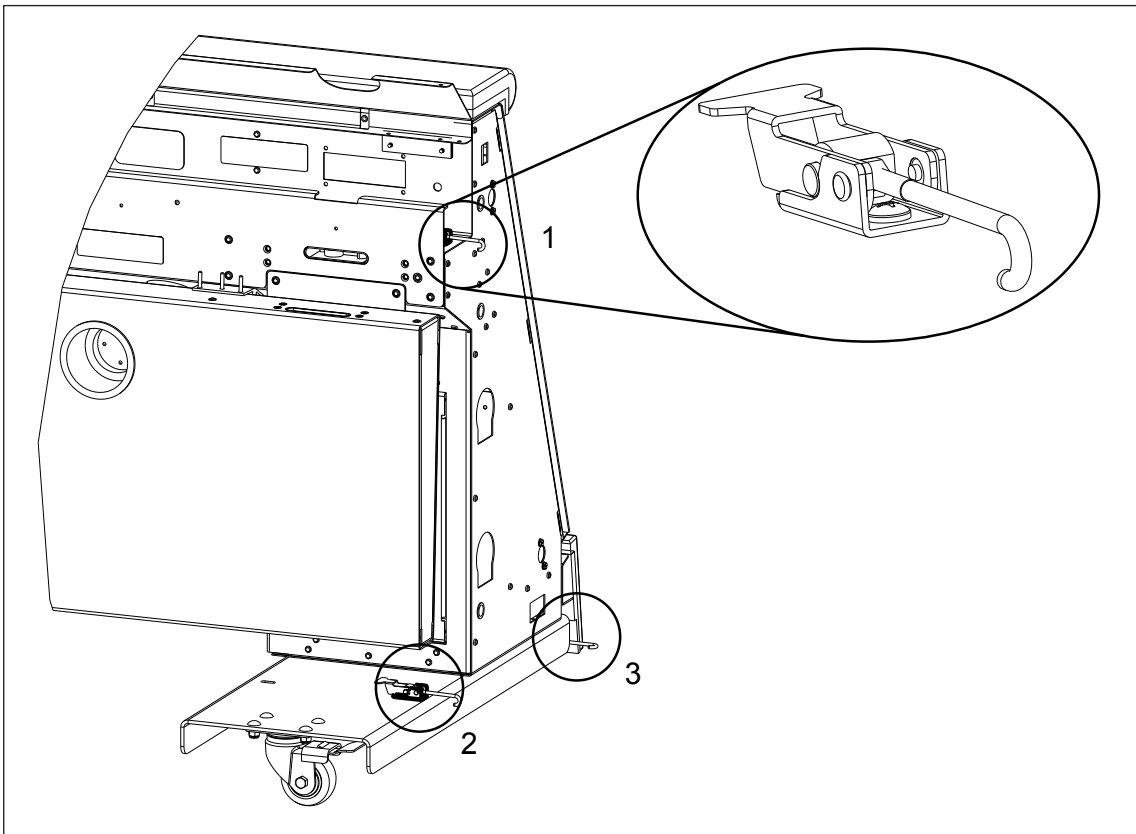

Figure 4: Latch Locations & Detail
If more than one scorer's table is to be used as part of a single display face, they must be lined up in the appropriate arrangement and attached to each other. One table attaches to another using three latches on the right-hand side of the table (as viewed from the rear). There is one latch in the cable tray (1), one latch on the rear of the caster base (2), and one latch on the lower-front corner of the caster base (3). Refer to **Figure 4** for the location and detail of these latches.